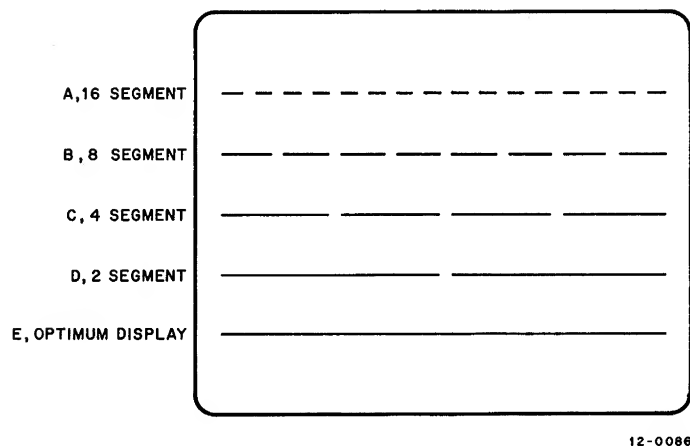
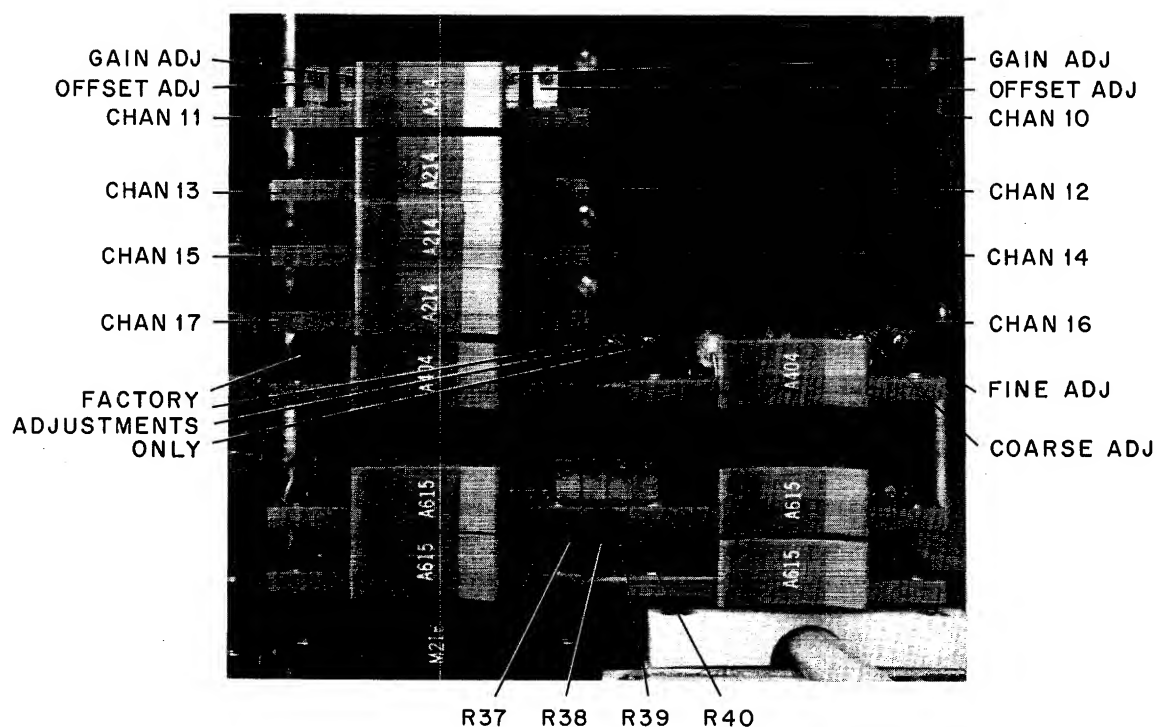

Figure 3-20 D/A Line Display
Figure 3-21 Sample and Hold Adjustments
7	A straight line will be displayed. If the line is of uniform brightness and continues from one side of the screen to the other without gaps, refer to Step 2 of this procedure. If the line displayed appears as E of Figure 3-20, refer to Step 1 of Adjustment Procedure, Paragraph 3.8.2.
The four most significant bits of Module A615, Digital-to-Analog Converter, are adjustable (R37 through R40 in Figure 3-21); bit 3 being the most significant, and bit 6 being the least significant. A misadjusted A615 displays a line either with gaps or overlays, or a combination of both. Figure 3-20 provides an example of all four significant bits being set too short. Data bit 3, being too short, divides the line into two equal halves (D). Data bit 5 divides the line into 8 segments (B) and, likewise, bit 6 divides the line into 16 equal segments (A).
1	The A615 is adjusted, starting with bit 6, the least significant bit, and adjusting toward the most significant bit, bit 3. Note the 16 segments of A of Figure 3-20. Adjust potentiometer R37 of Module A615, locations E and F37 (bottom of A615), until only eight segments are displayed as shown in B of Figure 3-20.
2	Adjust potentiometer R38 until only four segments are displayed, as shown in C of Figure 3-20.
3	Adjust potentiometer R39 until only two segments are displayed, as shown in D of Figure 3-20.
Do not adjust any other controls except those specifically mentioned in Paragraph 3.8.7 and shown in Figure 3-21. If compensating trimpots located on Module A404 are disturbed, the module must be returned to DEC for proper calibration.
7	While monitoring Channel 17, adjust the COARSE ADJ (see Figure 3-21) Module A404 (locations E and F34) until Channel 17 displays 000 (see Figure 3-21). Then adjust the FINE ADJ until the sign of the Channel 17 000 display oscillates between + and -. This oscillation indicates proper adjustment.
5	Monitor Channel 10, and adjust the right OFFSET potentiometer of Module A214, at location E30, for a -000. Turning the trimpot (shown in Figure 3-21) CCW increases the number.